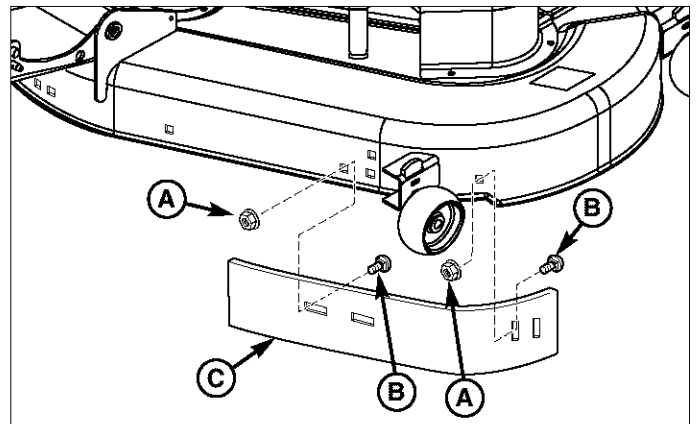
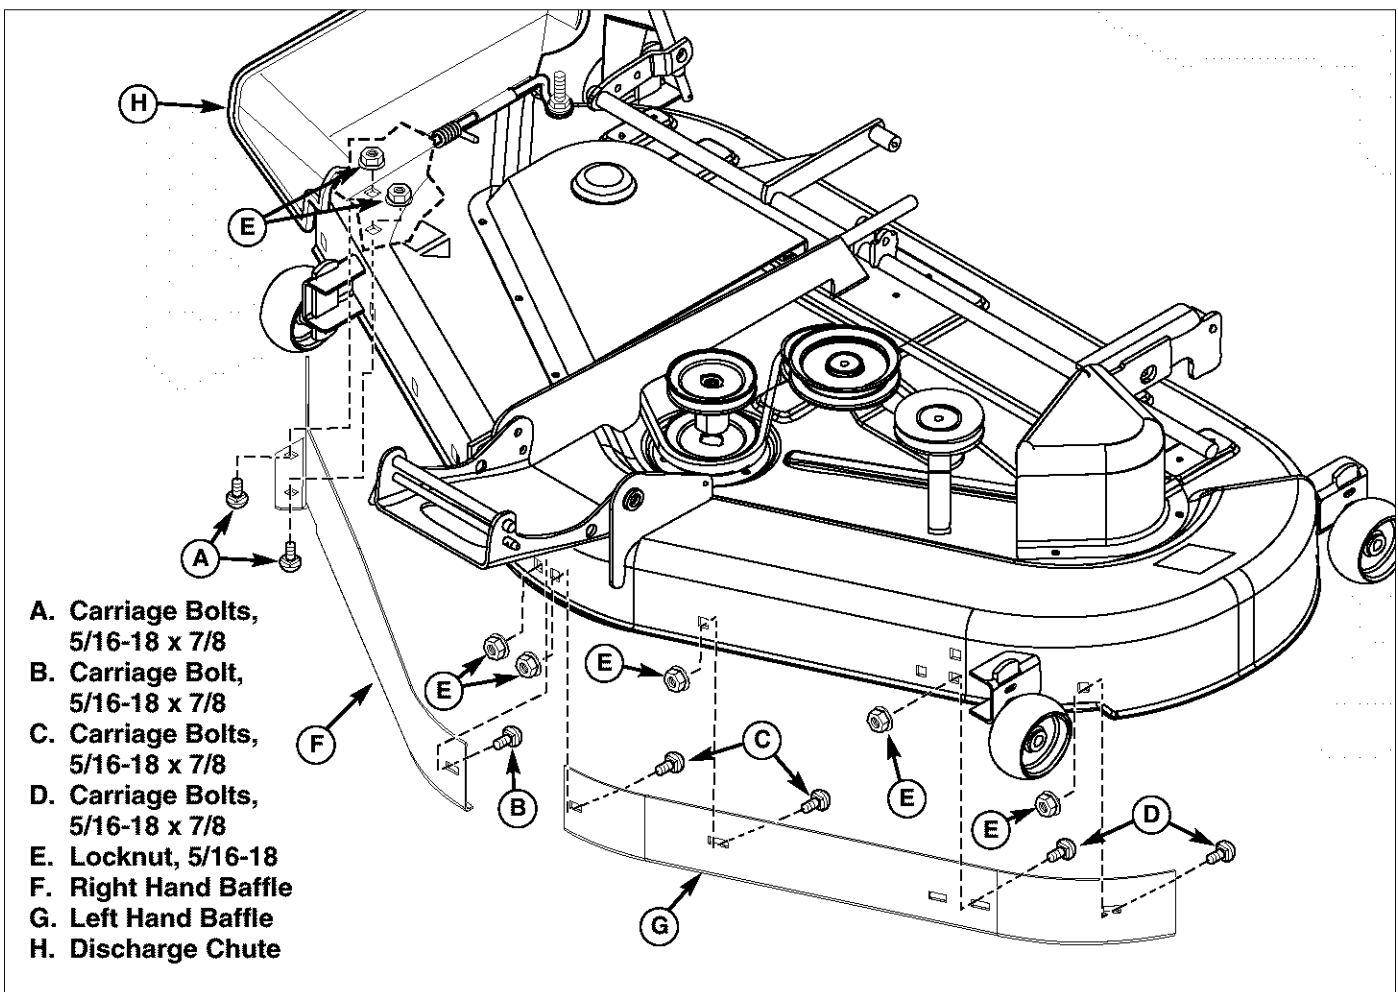

Figure 1. Baffle Removal
Figure 3. Baffle Assembly
2. Remove and discard 5/16-18 locknuts (A, Figure 1) and 5/16-18 x 7/8 carriage bolts (B).
3. Remove and discard the old baffle (C, Figure 1).
NOTE: The old baffle (C, Figure 1) is permanently replaced by the new baffles (F & G, Figure 3) included with this bagger.
1. Lift side discharge chute (H, Figure 3).
2. Insert baffle (F) through discharge opening and position baffle into place.
3. Tighten carriage bolts (A) and nuts (E) on baffle (F).
4. Tighten carriage bolt (B) and nut (E) on baffle (F).
5. Position baffle (G) into place.
6. Tighten carriage bolts (C) and nuts (E) on baffle (G).
7. Tighten carriage bolts (D) and nuts (E) on baffle (G).